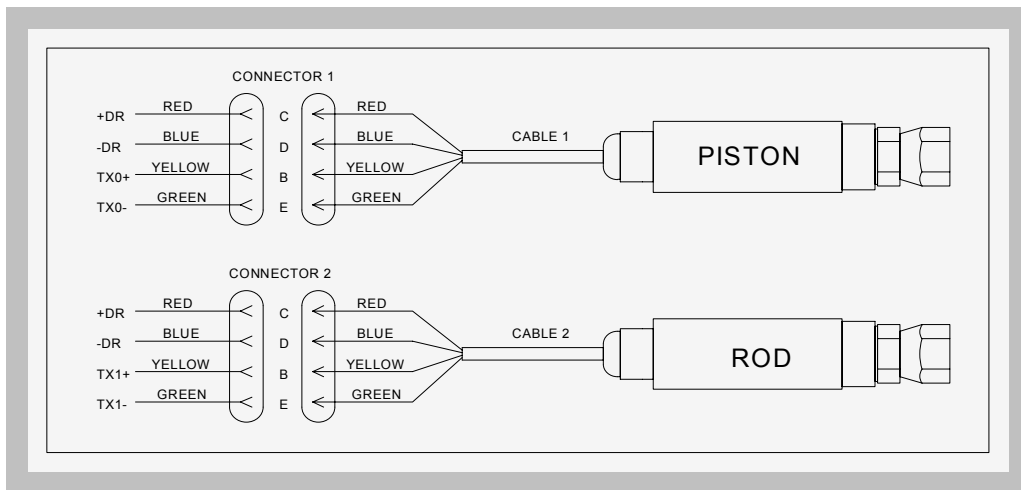

FIGURE 4.18 THE PRESSURE SENSOR CONNECTED TO THE COMPUTER
2. With the Digital Multimeter (DMM) set to the Ohms range, measure the resistance between pins "C" and "D" of connector MS3475W14-5PZ (see Figure 4.18). *The resistance should be.*